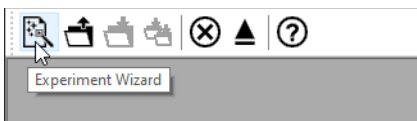
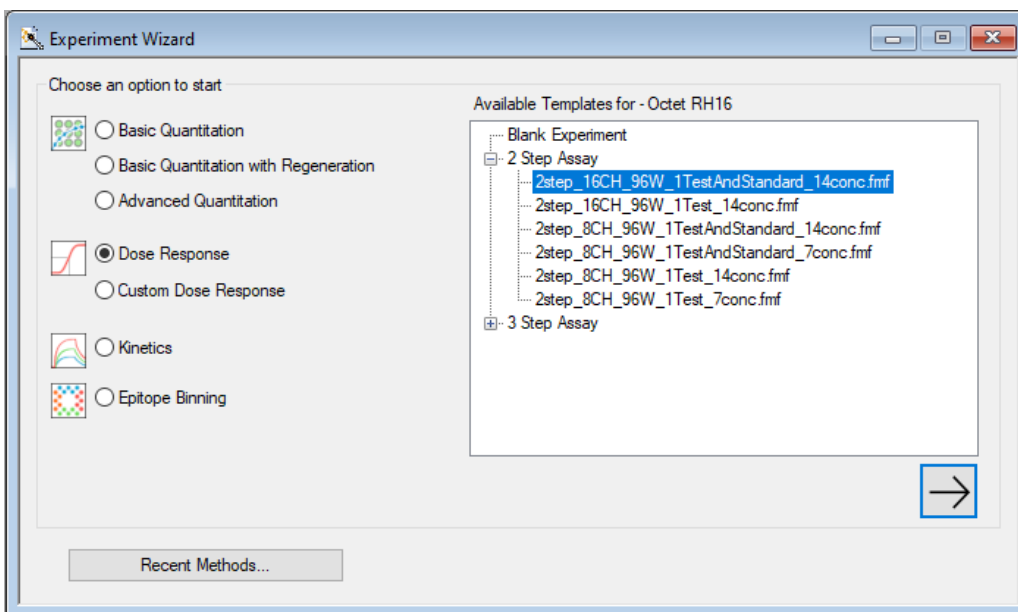

Figure 11-2: Starting the Experiment Wizard
Figure 11-3: Experiment Wizard
- **Via the menu or icon** – Start the wizard in the menu by selecting **Experiment | New Experiment Wizard** or by clicking the Experiment Wizard icon in the toolbar (Figure 11-2). Select **Dose Response** in the Experiment Wizard (Figure 11-3).